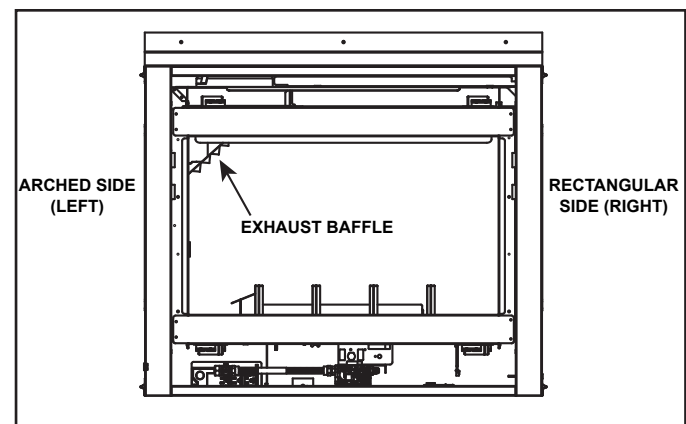

Figure 2. Distinguish Arched and Rectangular Sides of Appliance
10. Clear any glass or lava rock media away from the arched side of the firebox. See Figure 2.